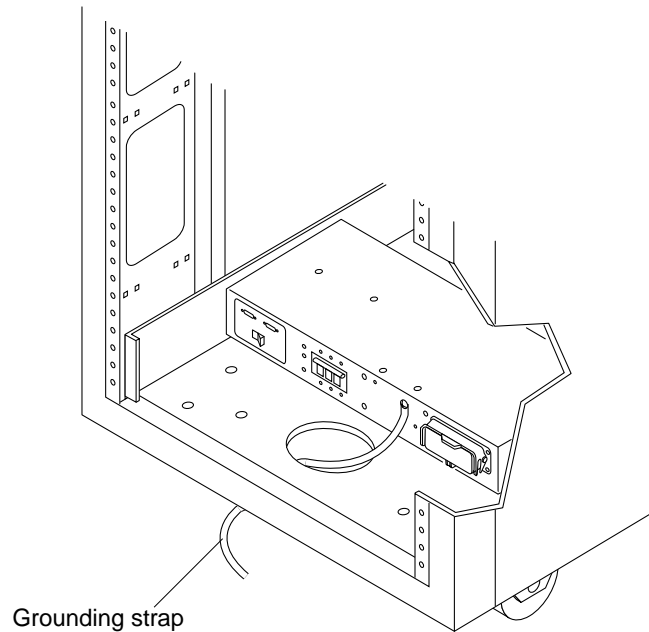

FIGURE 4-2 Attaching the Grounding Strap to the Front Power Sequencer
3. **Attach the other end of the grounding strap to the front power sequencer in the system (FIGURE 4-2).**